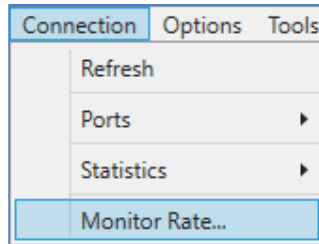
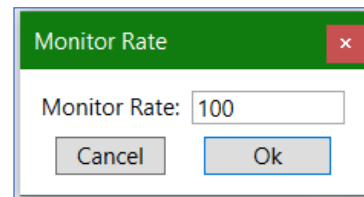

Figure 104: Connection, Monitor Rate...
Figure 105: Monitor Rate Selection
- Monitor Rate – Use the Connection drop down menu to select Monitor Rate, as shown in Figure 104. The Monitor Rate window, shown in Figure 105, sets the delay between reports from the RA hardware to the RxAn GUI. It defaults to 100 ms. There should be no reason to change this unless the PC that RxAn is running on cannot keep up with the incoming traffic from the RA hardware.